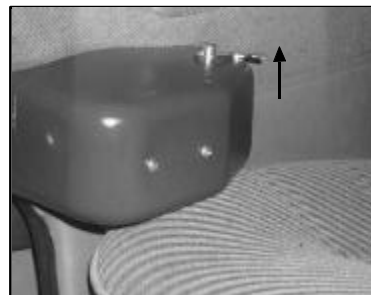

FIGURE 2-9: EMERGENCY RELEASE PIN
- a. Refer to **Figure 2-9**. Pull the Emergency Release Pin UPWARDS through the anchor bracket.